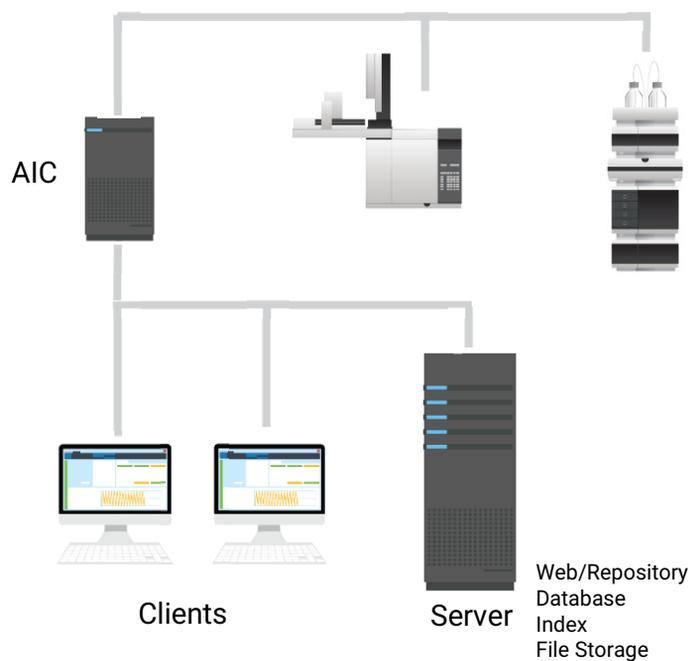

Figure 1 All-in-one topology: Clients and AIC link to one server
- 1-server all-in-one system (see Figure 1 on page 10),